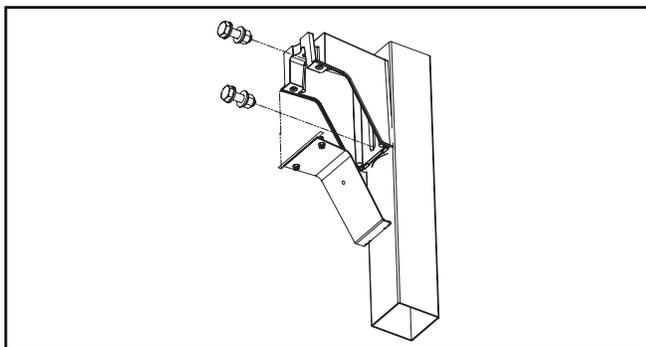

Figure 2.
2. Mount the arm to the round or square pole using the provided 1/2" x 1-3/4" long bolts and nuts. Torque bolts to 40 foot-lbs. (55 N-M). (Figure 2.) Mount arm directly to the pole surface so the entire surface of the arm contacts the pole. Do not mount arm to brackets that are attached to the pole.